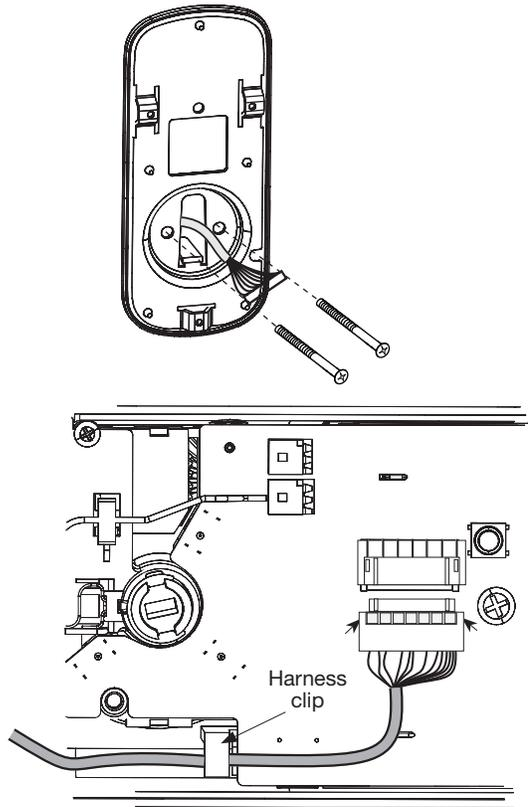

Figure 6A
- Attach cable assembly to the inside escutcheon printed circuit board (PCB) by lining up notches on top of cable connector to slots on PCB connector (Fig. 6A). Press connector in firmly using thumbs until completely seated (proper position indicated by arrows on PCB as in Figures 6A and 6B) .
Use care when assembling to ensure that the cable lies against the back recessed area of the inside escutcheon (Fig. 6A).